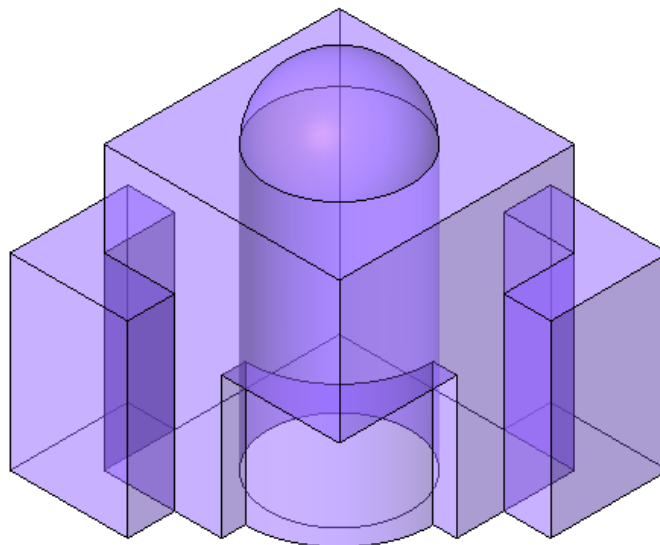

Figure 9-49 3D shaded view of the created dome mass
14. Choose **Finish Mass** from the **Sketch** tab to complete the dome, as shown in Figure 9-49.